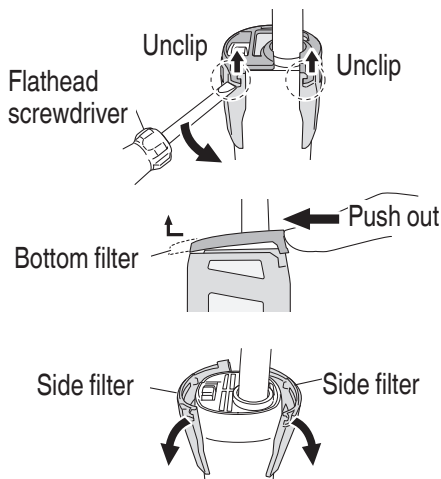

Fig. 13
If the mesh is clogged and the debris or dust cannot be removed, detach the filter and clean it with an air gun, etc. (See "Filter set replacement (Fig. 13)")
**Removal procedure (Fig. 13)**
- (1) Use a flathead screwdriver to unclip the two clips joining the bottom and side filters.
- (2) Push out the bottom filter in the direction indicated by the arrow.
- (3) Removing the bottom filter also allows the removal of the two side filters.